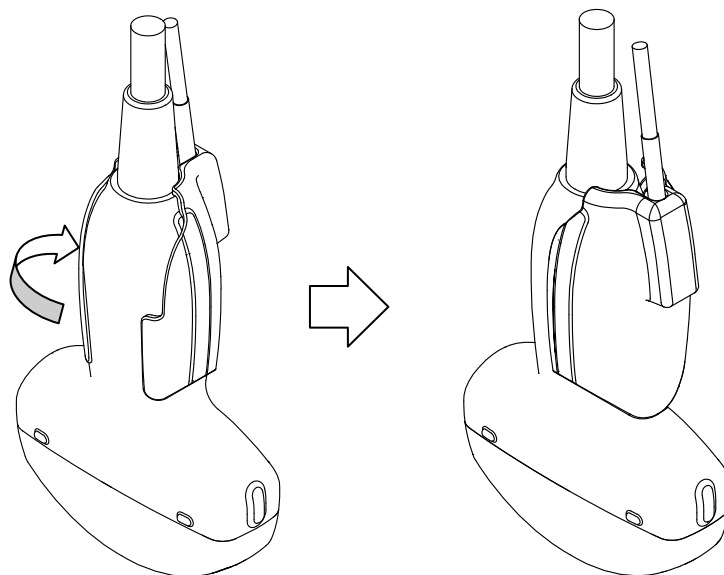

Fig.6 How to release Magnetic sensor attachment
- 1) Turn around the magnetic sensor attachment and release it from the probe as shown in Fig.6.